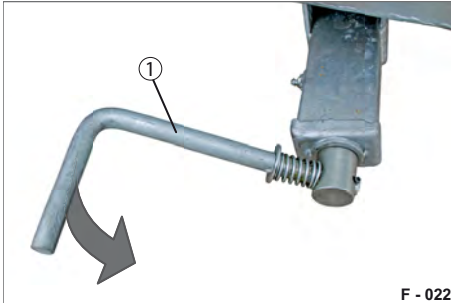

Fig. 47 Releasing the screw parking brake
- ▶ Release the hook (Fig. 46/2) from the crank (Fig. 47/1).
- ▶ Rotate the crank (Fig. 47/1).
- ▶ Rotate the crank (Fig. 47/1) anticlockwise as far as it will go.